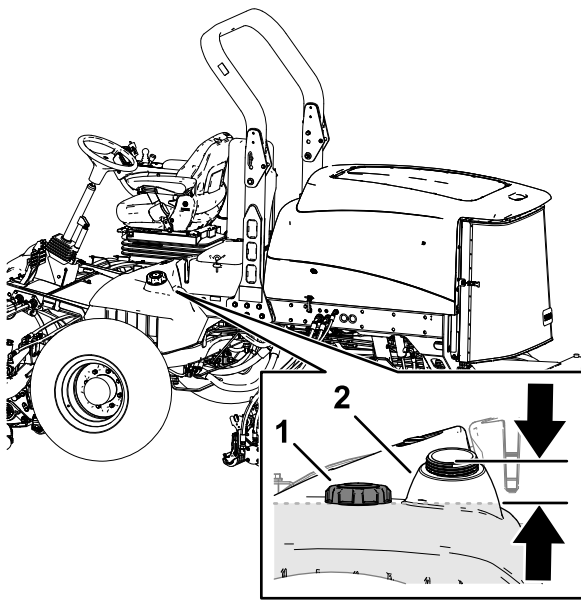

Figure 50
3. Remove the cap from the fuel tank (Figure 50).